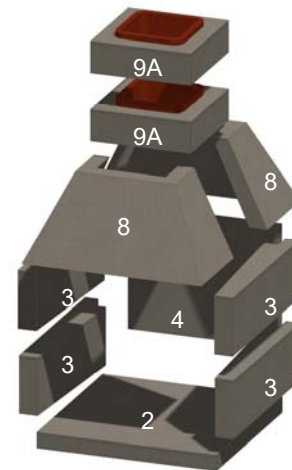
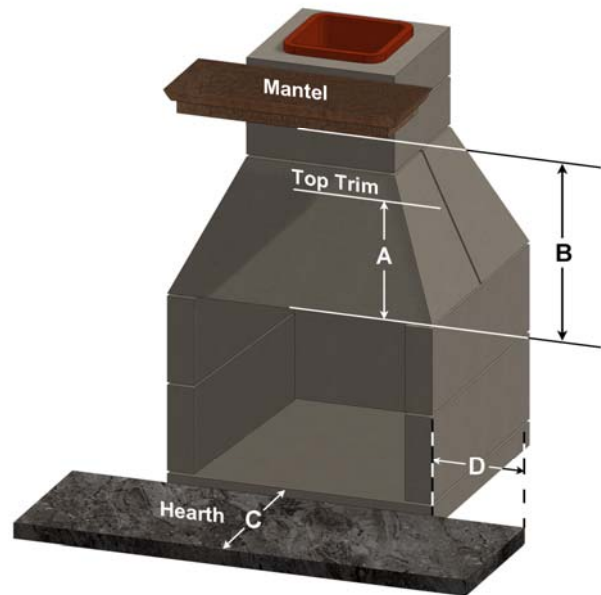

Figure 2. SA-24PS Exploded View
Figure 3. SA-24PS Mantel & Hearth
The fireplace is delivered as a kit with all components necessary to complete the installation. Component arrangements are shown in Figure 2. Components are listed in Table 1. Specifications and clearances are shown in Table 2.
- A. Fireplace items shown in Figure 2 and listed in Table 1.
<p>Note 1: Item numbers refer to component numbers in Figure 2.</p> <p>Note 2: Additional flue sections may be added to this fireplace, up to a maximum of four feet. Additional flue sections must be purchased separately.</p>
Table 2: Clearances (See Figure 3)
<p>Note 1: This Fireplace is intended for use with solid wood fuel or vented gas logs</p> <p>Note 2: This fireplace has not been tested for use with glass doors. To reduce the risk of fire or injury, do not install glass doors.</p> <p>Note 3: Do not use fireplace insert or other products not specified for use with this model. Use a fireplace grate when burning wood.</p> <p>Note 4: This fireplace has not been tested with an unvented gas log. Do not install an unvented gas log set into this fireplace.</p> <p>Note 5: Clay flue liners installed in flue section (item 9A, Figure 2) meet the specifications of ASTM Section C315-02.</p> <p>Note 6: Make sure installation complies with local building codes.</p> <p>Note 7: Floor under unit must be non-combustible to earth</p>
Select a location in the home plans or outdoor living area where all the minimum distances, as shown in Table 2 and Figure 3 can be met. Proceed as follows. Numbers in () are item numbers from Table 1 and Figure 2. Ensure the base on which the fireplace is to be installed is a solid and level foundation and is composed of non-combustible material, such as concrete.
If this is your first Stone Age installation, it is suggested that you first assemble the components without mortar to familiarize yourself with how the components fit together. See Figure 2.